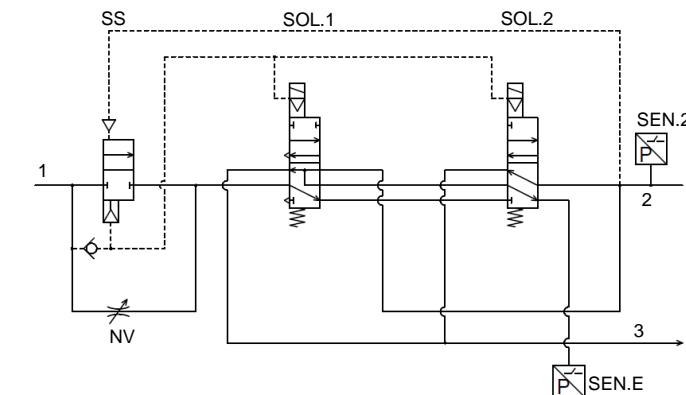
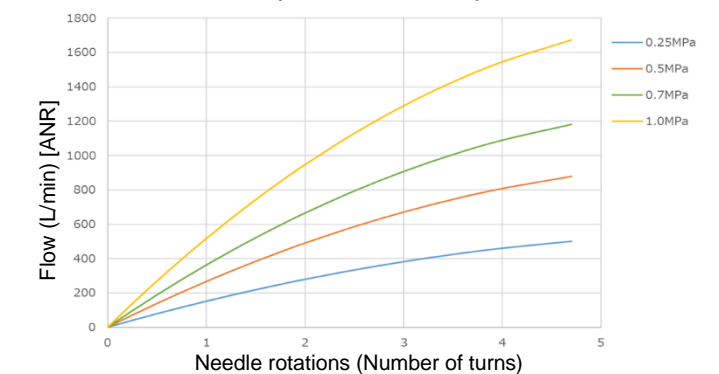

Figure 2.
Figure 4. Needle valve flow characteristics (Use this graph as a guide only)
- In a safety related application, the machine safety system will energise the safety valves (SOL.1 and SOL.2 in Figure 2) when the machine is safe to operate. When both valves are energised air will flow into the protected system via Port 2. The flow is initially limited by needle valve (NV) (see Figure 4) and pressure in the protected system will remain low as the system fills or actuators move slowly. The pressure will begin to rise as the system becomes full or the actuators stop moving. As Port 2 pressure increases, soft start-up (SS) valve switches on and valve NV is by-passed.